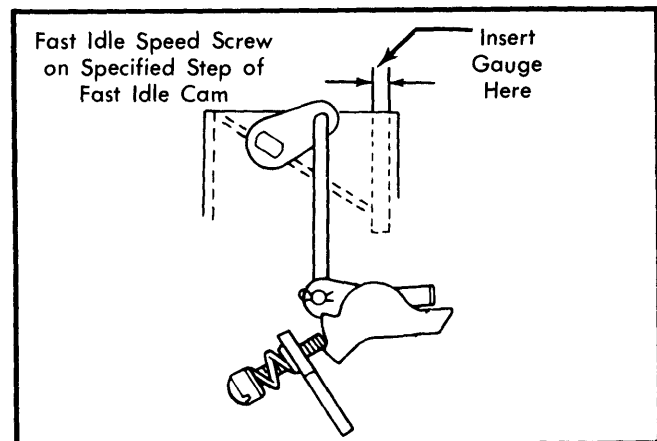

Fig. 4 Adjusting Fast Idle Cam Position
1) Position fast idle speed screw on second step of fast idle cam against shoulder of next highest step. See Fig. 4.